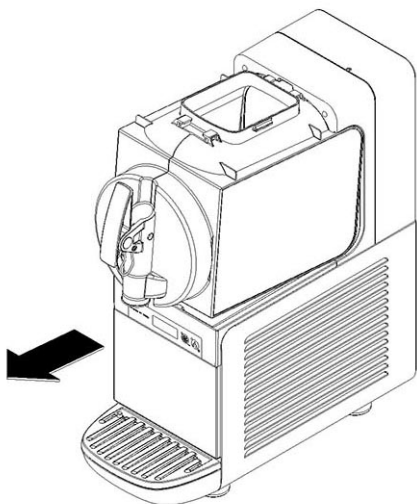

**figure 5**
**3** Remove the external coil from the evaporator (see figure 5) and then the hexagonal coupling